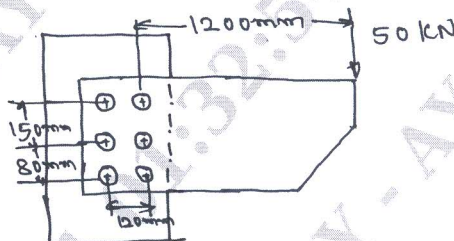

Fig.Q7(b)
b. Determine the diameter of rivet for the joint shown in Fig.Q7(b). The allowable stress in the rivets is 100 N/mm².